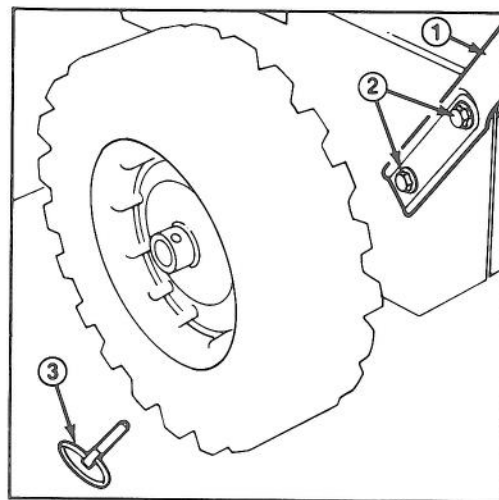

Figure 1
2. Position left handle on side of unit, align handle mount holes with holes in side plate and secure with two capscrews and pyramidal washers until finger tight (Fig. 1). Repeat procedure on right side. Make sure handles are at same height (parallel) before tightening handle screws in both sides of unit.